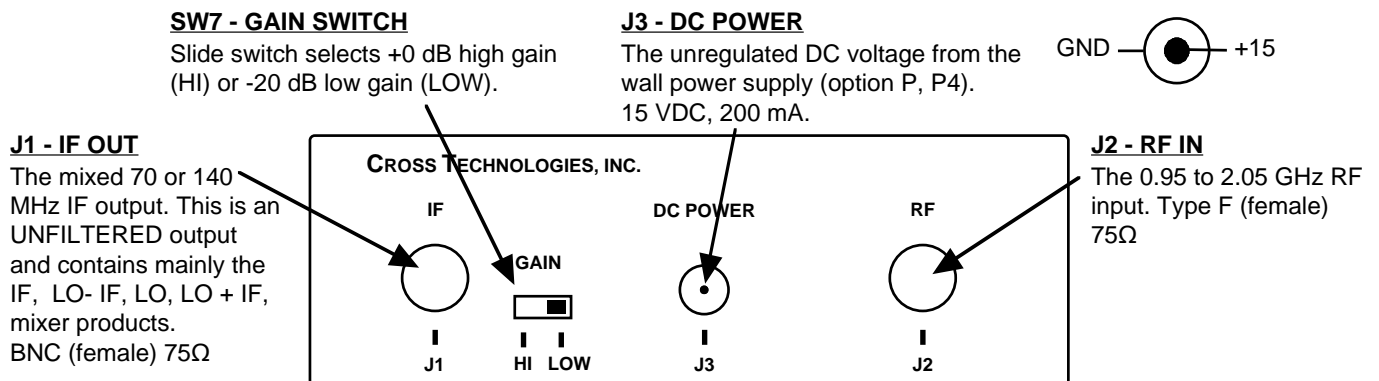

FIGURE 2.2 2005-22 Rear Panel Inputs and Outputs
2.3 Rear Panel Input/Output Signals - Figure 2.2 shows the input and output signals to the 2005-22.
1. If using the receiver LNB voltage to power the 2005-22, be sure +14 to +24 VDC is on the RF center conductor. If using the wall power supply (**options -P or -P4**), connect the power supply to the DC POWER connector and either 120 VAC (**-P**) or 90-260 VAC (**-P4**) (Figure 2.2)
3. Select either HI or LOW GAIN using the switch (SW7) on the rear panel (Figure 2.2).
4. Connect a -10dBm max RF signal to RF In, J2 (Figure 2.2).
5. Connect the IF Out, J1, to the modulator under test (Figure 2.2).
2.5.4 Selecting the Gain - The gain of the 2005 can be selected for +0 dBm (HI gain) or -20 dBm (LOW gain) with SW7 on the rear panel (see Figure 2.2).